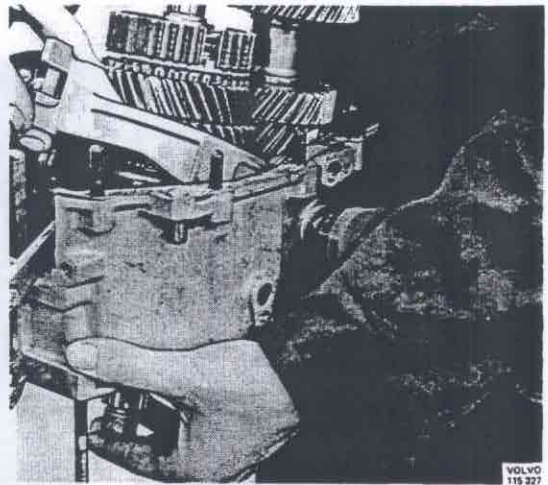

Fig. 43-62. Removing selector fork
22. Lift up the output shaft and remove the selector fork for 1st-2nd synchronizing, Fig. 43-62.